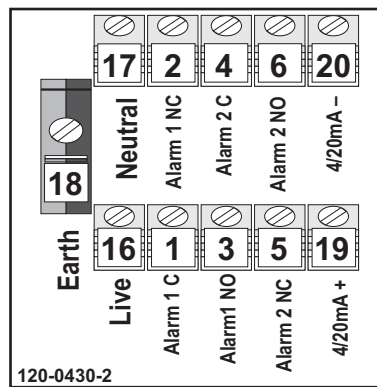

Figure 8 - Power and output terminals
Connections to this display/control unit are provided on DIN-rail mounted terminals to the left of the display. Terminal identities are provided on a label below them - see Figure 8.
- Alarm 1- Fault alarm (as terminals 1- 3 in Fig. 8)
- Alarm 2- Range alarm (as terminals 4- 6 in Fig. 8)